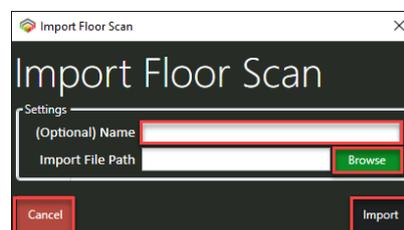

Figure 75. Import Floor Scan dialog.
2. Select -> **Import Floor**, to open the **Import Floor Scan** dialog (Figure 75).